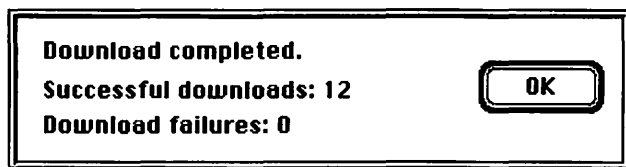

Figure 23 Download Completed dialog box.
- When the download process is complete, the Download Completed dialog box, shown in Figure 23, will appear.